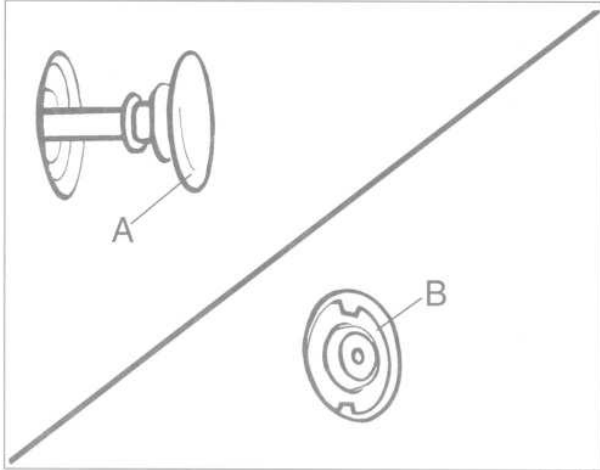

Fig. 21. Tailgate spray nozzle shown in extended position (top). Unscrew nozzle cap (A) and remove slotted nut (B) at base of nozzle.
2. Close tailgate and have helper operate tailgate spray washer. Hold operating nozzle in extended position and turn off washer. See Fig. 21.